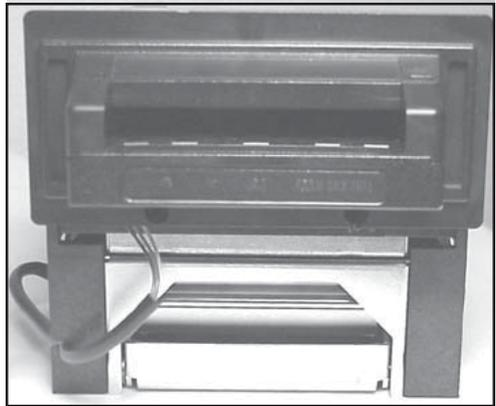

Figure 5
9. Replace the transport in the frame (see Figure 5).